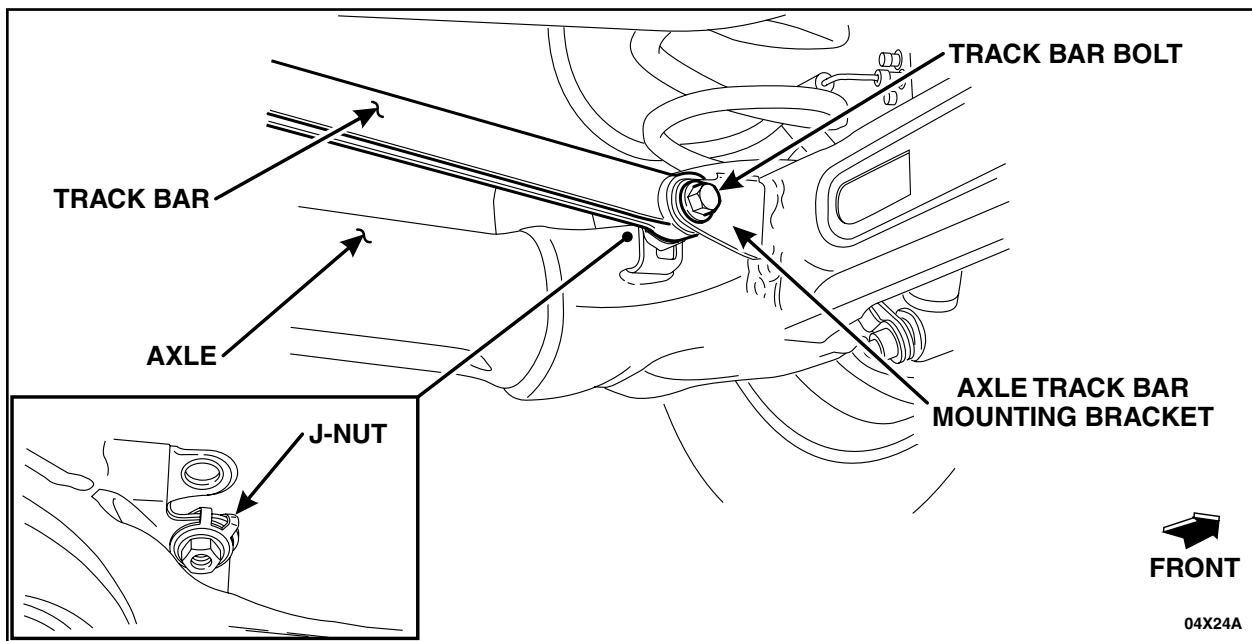

FIGURE 4
4. Disconnect the track bar from the rear axle. *See Figure 4.*
18. Install the J-nut on the rear axle track bar mounting bracket. Position the track bar on the rear axle track bar mounting bracket and install the track bar bolt. *See Figure 4.*